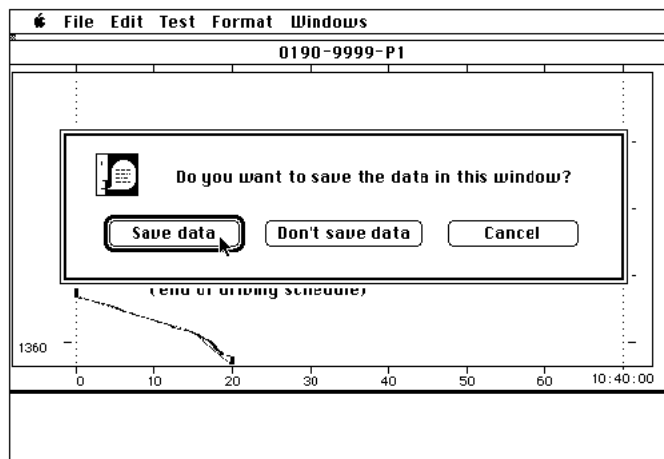

Figure 3
- 7.0 To save the VDA test data after “Editing Driving Events,” the VDA will prompt you with the message “Do you want to save the data in this window?” Position the mouse pointer on “Save” and click to select it. See Figure 3.